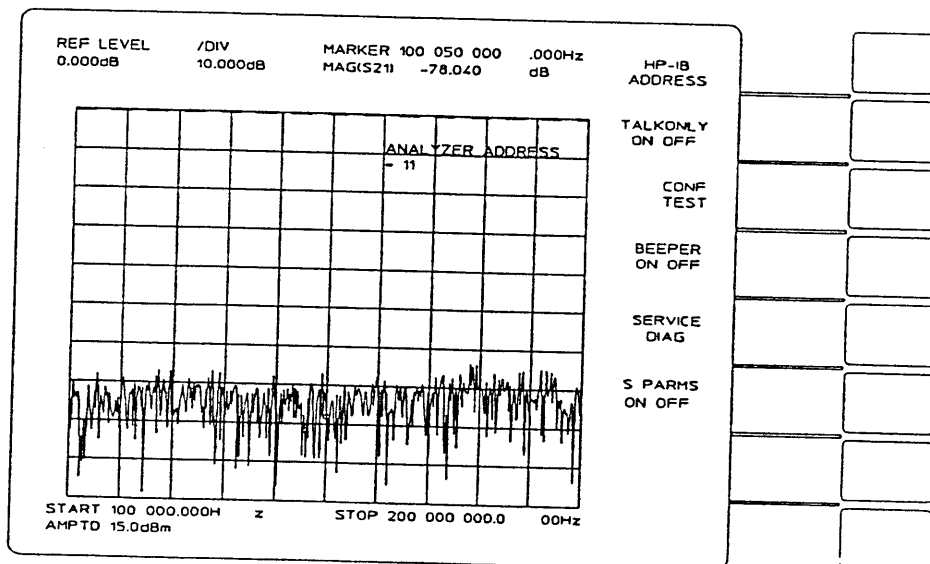

Figure 3-2.
2. Press the "HP-IB ADDRESS" softkey (top item in the display menu). The address will appear in the entry block. See figure 3-2.